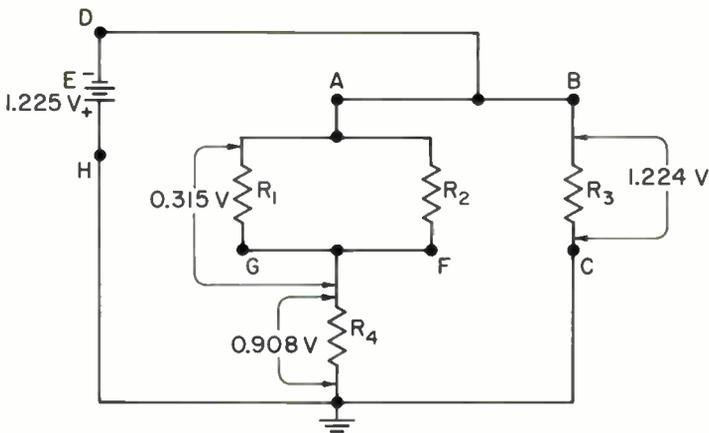
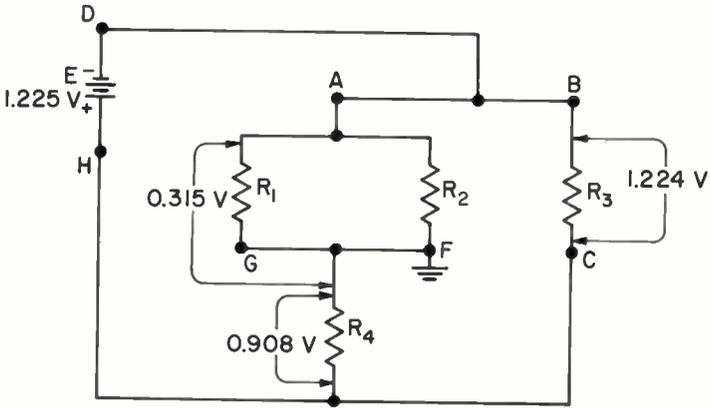

Fig. 27
Fig. 28
1. Figure 27 is Fig. 15(g) redrawn with a ground added. Indicate on the figure the voltages with respect to ground at points A , B , C , D , F , G , and H . Be sure to show the polarity of each voltage. (*Note:* We know that voltages across parallel paths are equal; the discrepancies in the figure are due to rounding off the calculations.)
2. Figure 28 is the same as Fig. 27, except that the ground has been changed to a different place. Mark on the figure the voltages with respect to ground at points A , B , C , D , F , G , and H , being sure also to mark the polarity of each voltage.